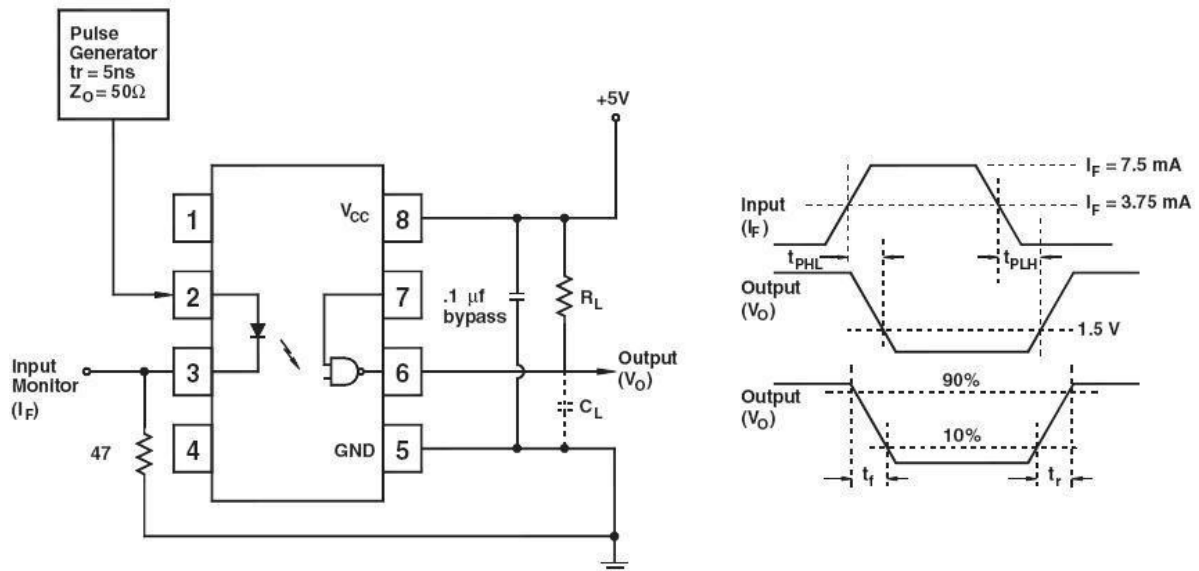

Fig. 12 Test Circuit and Waveforms for  $t_{PLH}$ ,  $t_{PHL}$ ,  $t_r$  and  $t_f$
|                                                       |                       | $C_L = 15\text{pF}$ (4) (Fig. 12)                                                                                                                          |                            |      |       | 100 | ns               |
|                                                       |                       | $R_L = 350\Omega$ , $C_L = 15\text{pF}$ (Fig.12)                                                                                                                      |                            |      |       | 100 | ns               |
| Pulse Width Distortion                                | $ T_{PHL} - T_{PLH} $ | $R_L = 350\Omega$ , $C_L = 15\text{pF}$ (Fig.12)                                                                                                                      |                            |      | 3     | 35  | ns               |
| Output Rise Time (10-90%)                             | $t_r$                 | $R_L = 350\Omega$ , $C_L = 15\text{pF}$ (6) (Fig.12)                                                                                                       |                            |      | 50    |     | ns               |
| Output Rise Time (90-10%)                             | $t_f$                 | $R_L = 350\Omega$ , $C_L = 15\text{pF}$ (7) (Fig.12)                                                                                                       |                            |      | 12    |     | ns               |